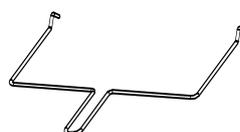

fig. 8
4. Turn the Function dial (C) to the upper heater setting  and temperature dial (B) to require temperature, i.e. 230 °C and wait a few minutes for the grill to heat up.
6. Attach Handle (L) to the rack and use the handle to insert the rack into the oven, sliding into the slots nearest to the top of the oven. Detach handle from rack as it may become very hot during cooking.
**See fig. 8.**